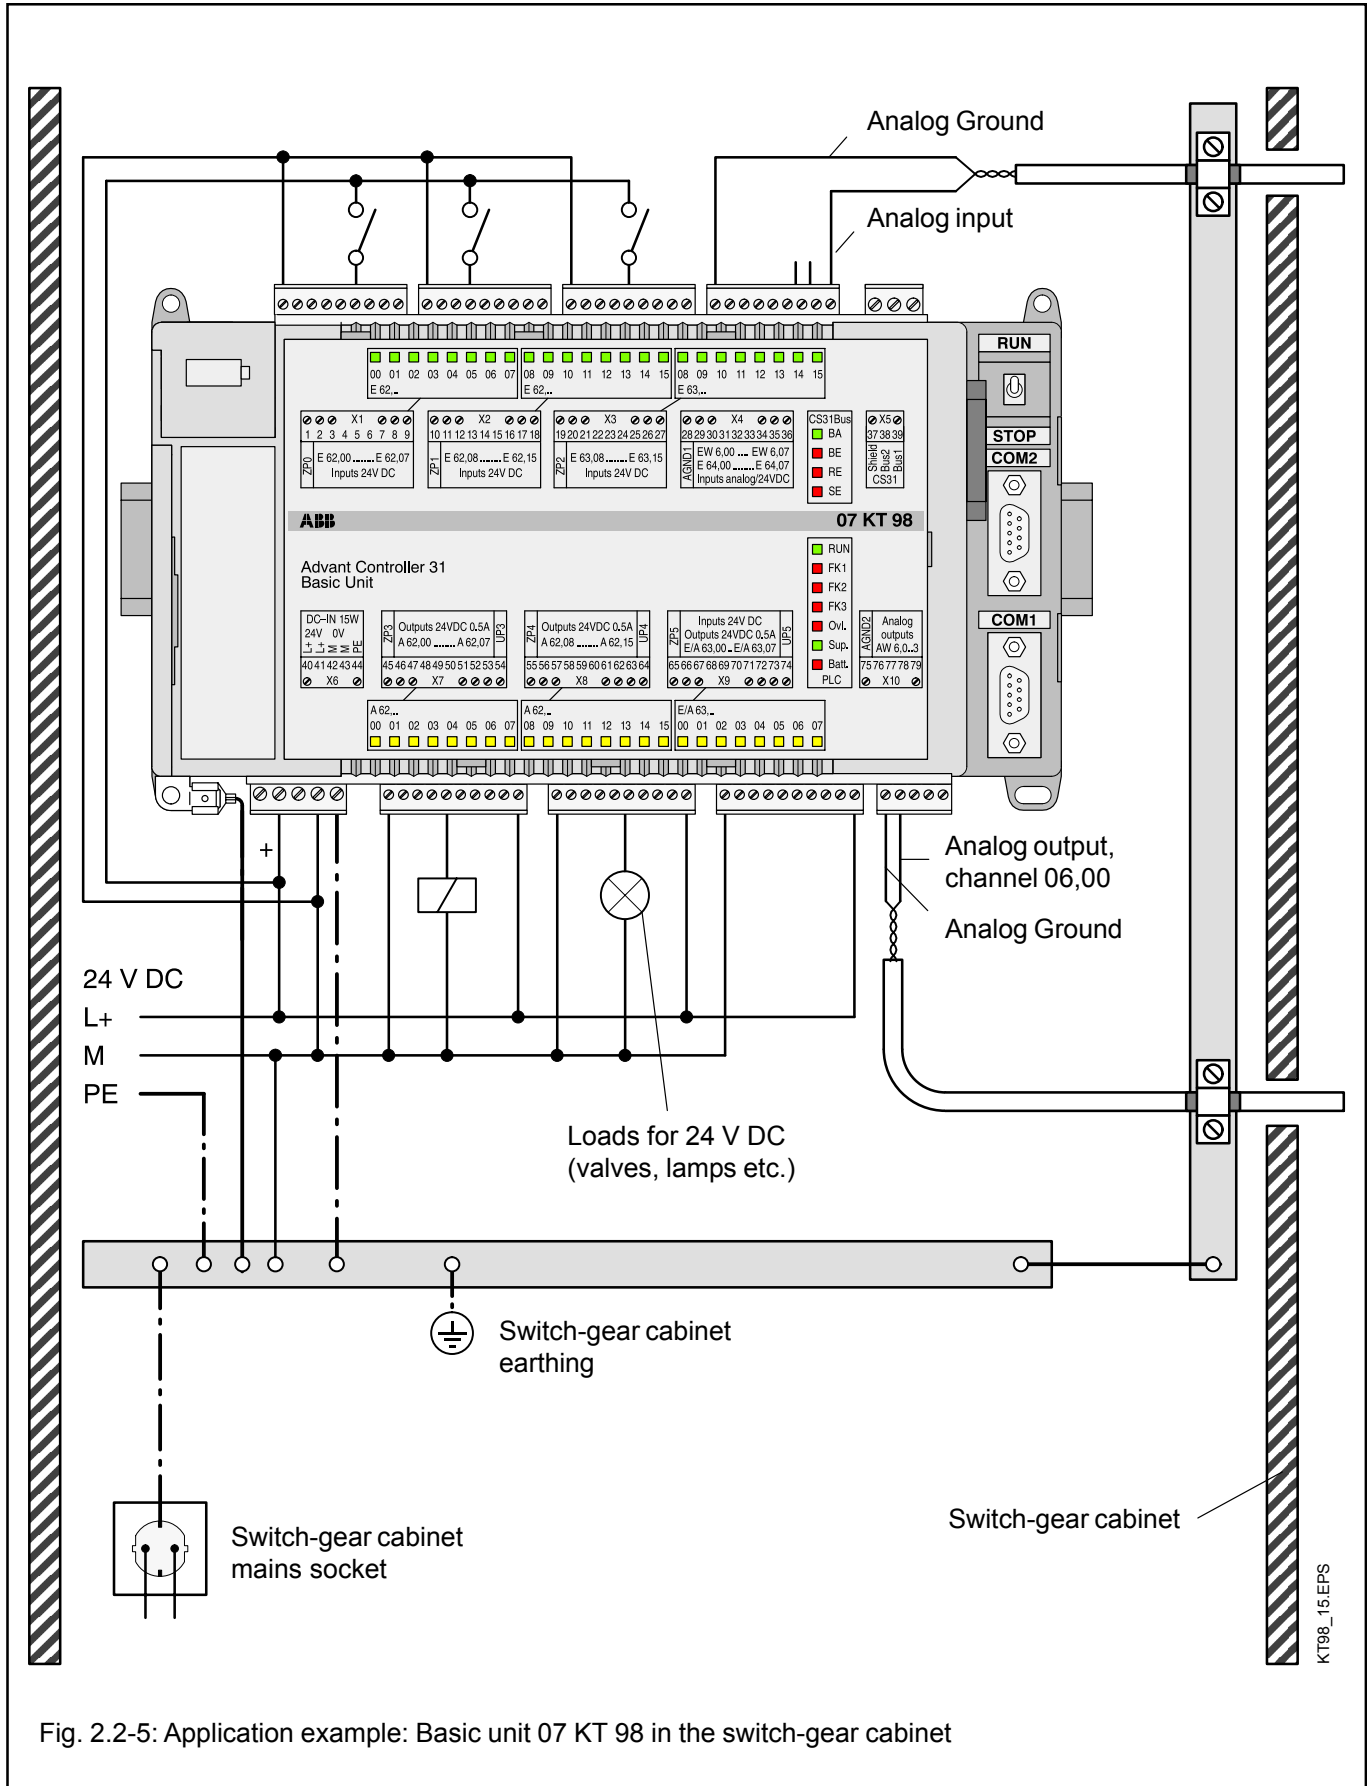

Fig. 2.2-5: Application example: Basic unit 07 KT 98 in the switch-gear cabinet
- Analog signals are conducted in shielded cables (see Fig. 2.2-5).